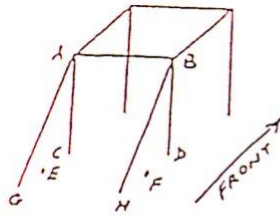

FIG 1
- A. The general design shall be as in fig 1.
- D. Roll cages must have two longitudinal braces, one each side, from the roll cage towards the rear of the vehicle, shown as A to G and B to H in fig1.
- E. All tubes to be as straight as possible between structural bends as per fig 1.
- B. If any of the pipe that forms the roll cage structure as in FIG1 – Roll Cage General Design, is bent out of line, because of impact, by more than the OD of the pipe and cannot be straightened, repaired or replaced without showing signs of damage or crimping then that vehicle will be deemed unable to continue in competition until it has been satisfactorily been repaired and passes scrutineering again.